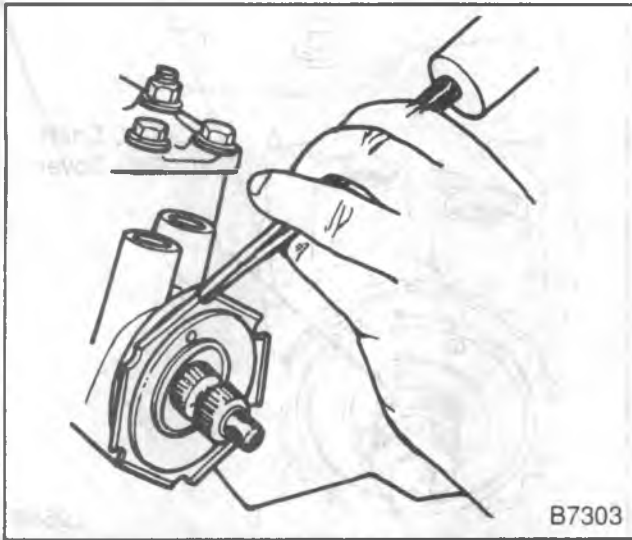

Figure 16—Loosening Adjuster Plug Nut
1. Loosen and remove the adjuster plug nut (6) (figure 16).
2. Turn the adjuster plug (3) in (clockwise), using J 7624, until the plug and thrust bearing are firmly bottomed in the housing.